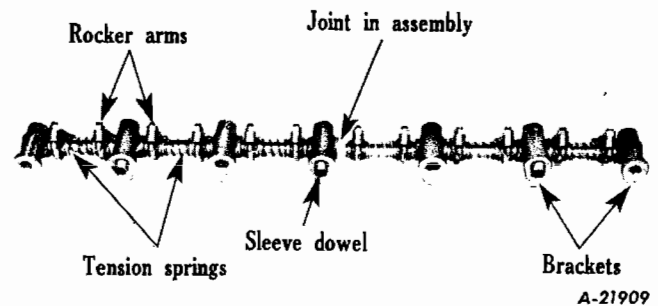

Fig. 8
1. The rocker-arm assembly is composed of front and rear shafts joined at the center, on which are mounted twelve rocker arms and six tension springs (Fig. 8). The shafts are mounted in seven brackets, and are prevented from turning at the two end brackets by slots in the shaft into which the cylinder-head bolts fit.